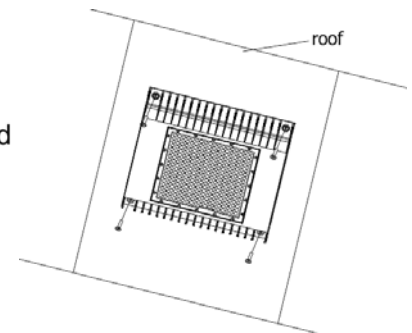

Fig. 6
3. Secure the fixture to the roof by 4 screws. See Fig. 6.
2. Open the back plate first, pull the wires back and through out from the 1/2" NPT threaded hole. Secure the fixture to the roof by 4 screws. See Fig. 6.